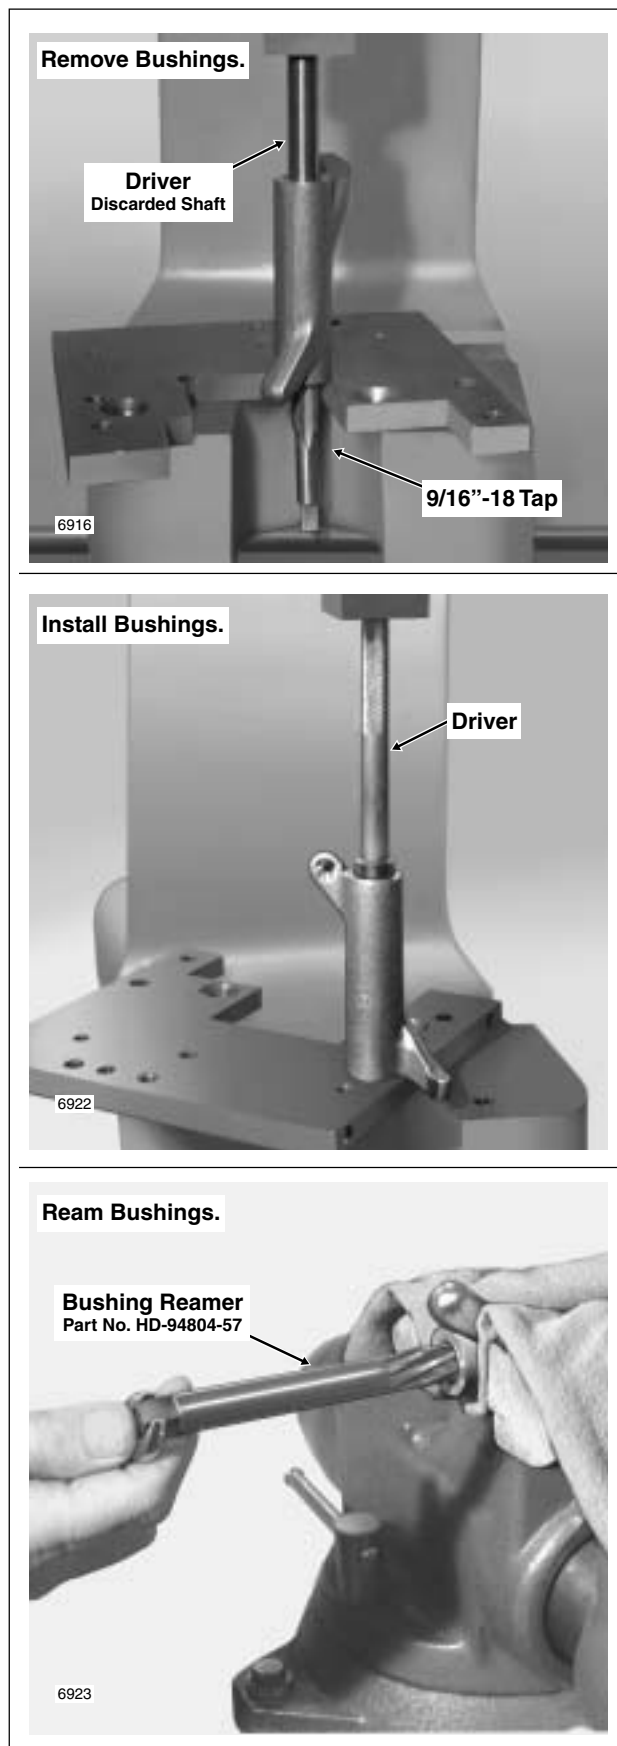

Figure 3-59. Replace Rocker Arm Bushings
- a. Obtain a 9/16"-18 (14.29 mm) tap. Turn tap into bushing until tight. Place rocker arm under ram of arbor press with tap at bottom. Slide a discarded rocker arm shaft through open end of rocker arm until contact is made with tap. Using shaft as driver (and untapped bushing as pilot), press against shaft until both tap and bushing are free. See upper frame of Figure 3-59.
- b. Using a suitable driver, press **new** bushing into side of rocker arm until flush with casting. See center frame of Figure 3-59. Be sure to orient bushing so that split line faces top of rocker arm.
- c. Lock rocker arm in a vise using brass jaw inserts or shop towels to prevent casting damage. Insert tapered end of **ROCKER ARM BUSHING REAMER** (HD-94804-57) into old bushing in rocker arm. Note that old bushing on drive side of reamer serves as pilot. See lower frame of Figure 3-59. Rotate reamer until new bushing on far side is reamed, and then continuing in the same direction, draw drive side of reamer from new bushing.